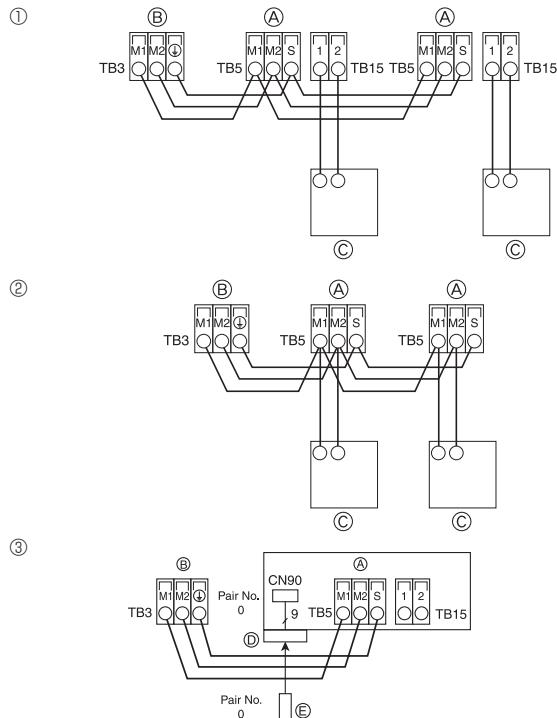

Fig. 5-12
5.5. Connecting remote controller, indoor and outdoor transmission cables (Fig. 5-12)
- ① MA Remote controller
② M-NET Remote controller
③ Wireless remote controller (When installing wireless signal receiver)
④ Connect the wire of wireless signal receiver (9-pole cable) to CN90 of indoor controller board.
⑤ To change Pair No. setting, refer to installation manual attached to wireless remote controller. (In the default setting of indoor unit and wireless remote controller, Pair No. is 0.)